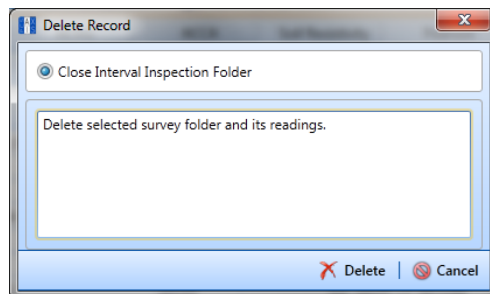

Figure 6-9. Delete Record
- Click **Delete**. When the message *Delete Record* displays, click **Delete** again (Figure 6-9).